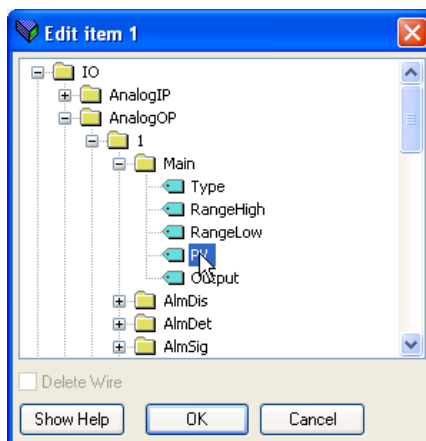

Figure 7.8.1b Parameter browse
4. A parameter Browse window appears (figure 7.8.1b) for the selected row (1 in the figure), allowing the user to select a parameter.